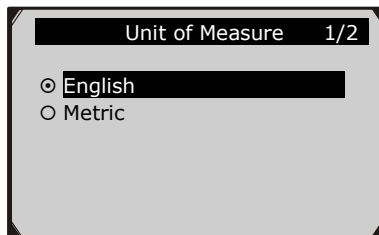

Figure 3.5
- 2) From **Unit of Measure** screen, use the **SCROLL** button to select the desired unit of measurement. (Figure 3.5 )